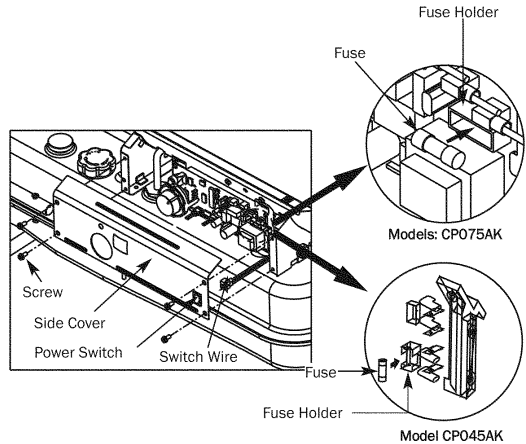

Figure 10
Replacing Fuse (Figure 10)
- Remove fuse from fuse holder (See Figure 10)